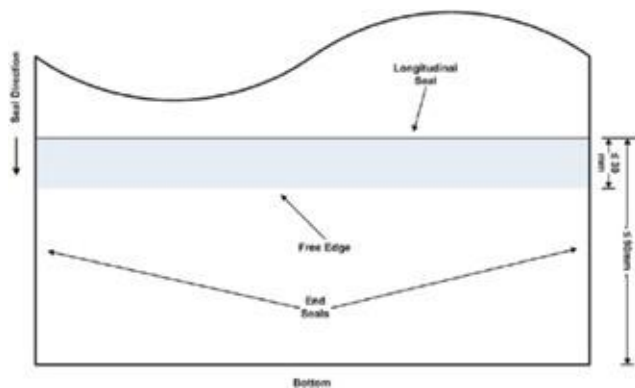

Figure 22 Sealing poly
- The seal must be towards the bottom of the Large Letter and be no more than 90mm from the bottom edge (see **figure 22**)